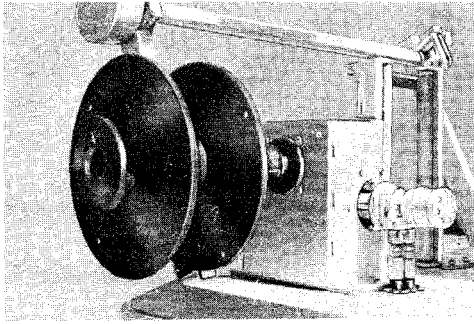

Fig. 15—Hydraulic Winch Spindle Assembly
7.03 A light duty hydraulically driven winch can be placed on the right rear corner of the body with controls located in the stand reel carrier well. With truck engine speed at recommended 2000 rpm, winch speed is controlled by valve feathering up to 100 rpm. The valve automatically returns to center "off" when released. The winch shaft on current models will accommodate either the CR or RS reels; whereas, earlier models are compatible only with RS reels. CR reels are used only for capstan applications. Table A indicates approximate line speed and pull capability at various fractions of full drum. To prevent equipment damage, the hydraulic system will bypass at loads greater than 1500 pounds on the first layer. The winch is generally used for prelash operations, but can also be used for light aerial removal placing. (See Fig. 15, 16, and 17.)